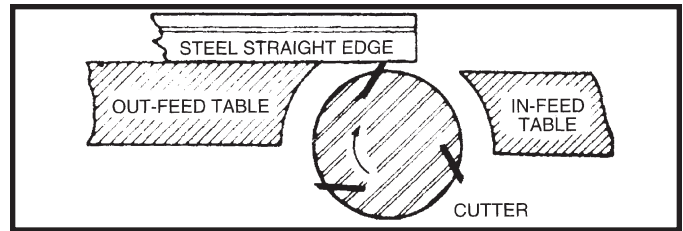

Fig. 40
3. Place a steel straight edge on the outfeed table, extending over the cutterhead as shown in Fig. 40.